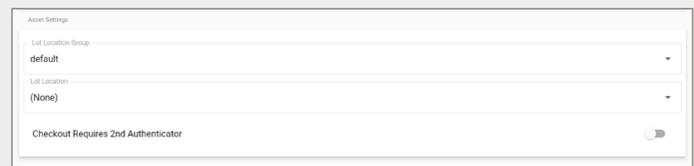

Fig. 56 – Edit Asset screen – Asset Settings
13. Fill in the **Asset Settings**, as shown in Fig. 56.